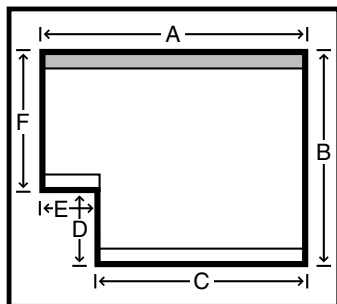

Figure 8 Edge Cut Out
- Edge cut out blinds (Figure 8) will have two bottom rails.